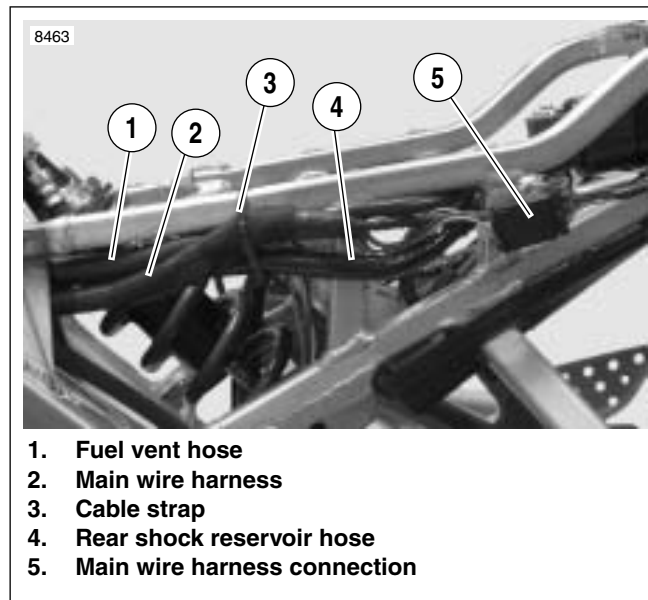
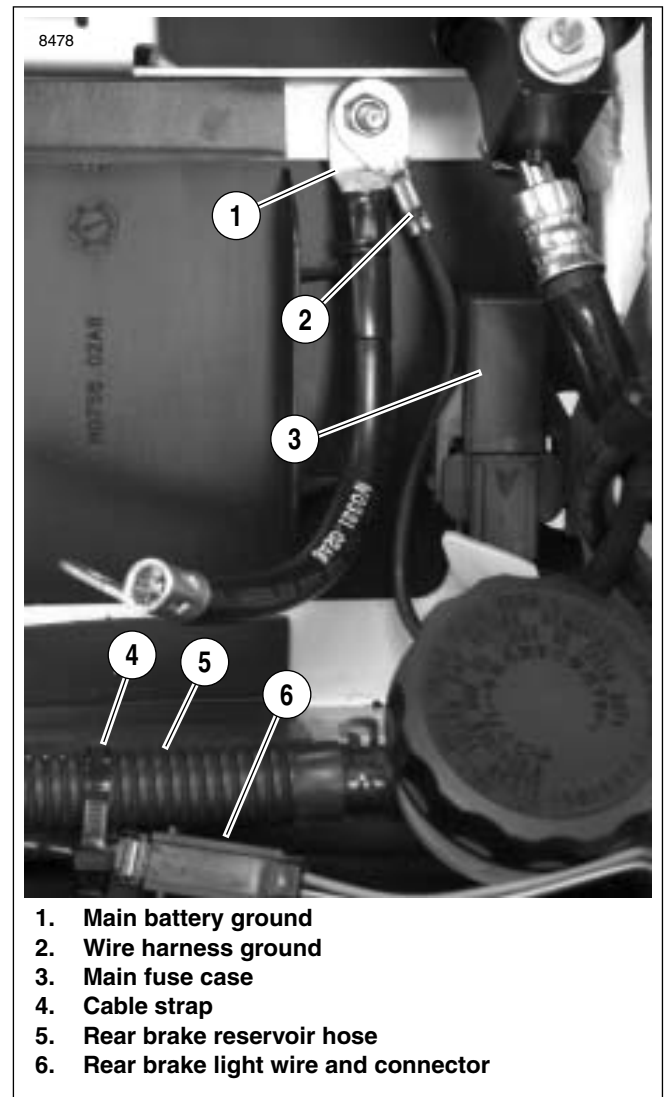
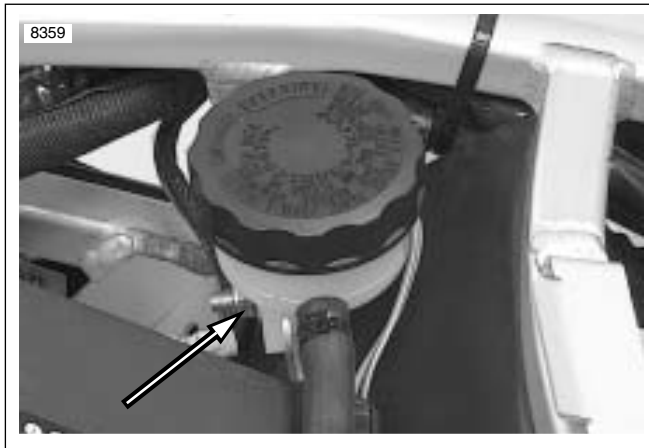

Figure 2-121. Left Side Subframe Tail Assembly Hose and Wire Routing
Figure 2-122. Inside Subframe Tail Assembly Hose and Wire Routing
Figure 2-123. Remote Reservoir Clamp Nut
5. See Figure 2-121. Cut cable strap (3) from subframe tail assembly holding vent hose (1), main wire harness (2) and shock reservoir hose (4).
6. Disconnect rear power harness connection (5).
13. See Figure 2-122. Disconnect main battery ground (1) and ground to wire harness (2).
14. Remove main fuse case (3) from subframe tail assembly.
15. See Figure 2-122. Cut cable strap (4) holding rear brake reservoir hose (5) and rear brake light wire (6).
16. Disconnect rear brake light connection (6).
17. See Figure 2-123. Remove rear brake reservoir clamp nut.
1. Install subframe tail assembly (7) to frame and tighten fasteners (8) to 21-23 ft-lbs (28-31 Nm) using LOCTITE 272.
3. See Figure 2-122. Feed rear brake light connector (5) into subframe tail assembly and connect.
4. Install main fuse case (3) onto subframe tail assembly.
5. Install main battery ground (1) and ground to wire harness (2) to subframe tail assembly. Tightening fastener to 72-96 **in-lbs** (8-11 Nm).
6. See Figure 2-121. Feed the rear shock reservoir (4) through second subframe tail assembly support.
9. See Figure 2-121. Feed fuel vent hose (1) through tail section, keeping the hose on top of rear shock reservoir hose. See D.1 HOSE AND WIRE ROUTING for hose and wire routing.
10. Install cable strap (3) holding shock reservoir hose, wire harness and fuel vent hose to subframe tail assembly.
11. See Figure 2-123. Feed rear brake reservoir hose underneath subframe tail assembly and install rear brake reservoir tightening fastener to 48-72 **in-lbs** (5.4-8.1 Nm).
12. See Figure 2-122. Install cable strap holding brake light connector and rear reservoir hose.
- a. Install trunk (11).
- b. Install lower body work (9) underneath subframe tail assembly by tightening fasteners (10) to **36-48 in-lbs** (4-5 Nm).
15. See Figure 2-121. Connect rear power harness to tail light harness (5).